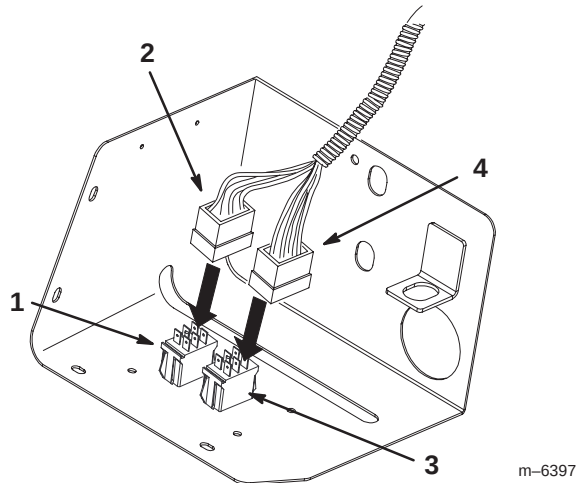

Figure 25
13. Connect the connector with mostly green and yellow wires to the spray selection switch (toggle style switch) (Fig. 25).
14. Connect the connector with the multi-colored wires to the rate control switch (momentary switch) (Fig. 25).